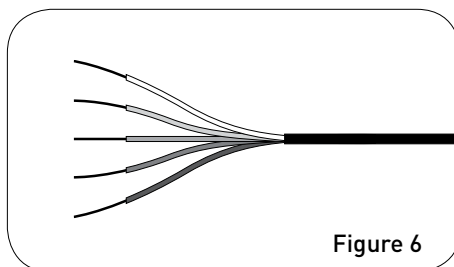

Figure 6
4. Remove 7/8”–1” of insulation from each individual wire (Figure 6)